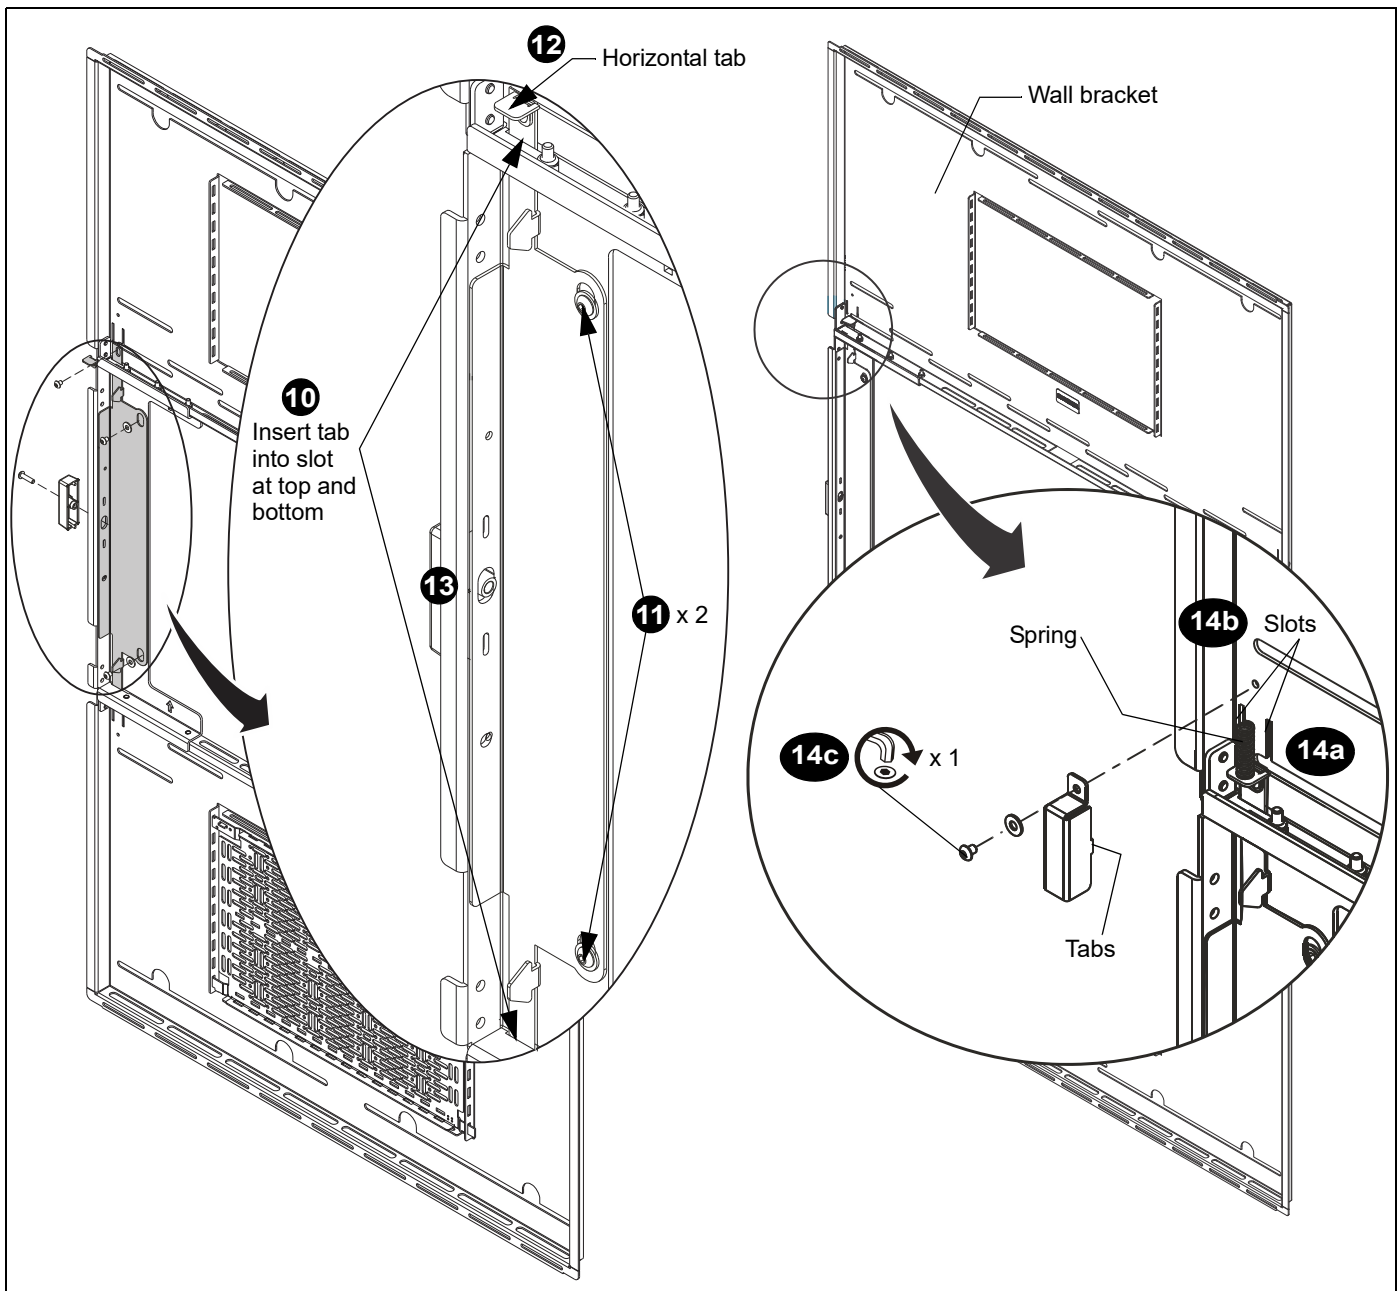

Figure 18
NOTE: Be sure that upper and lower tabs are slid into slots on wall bracket. (See Figure 18)
11. Fasten in place with two washers and screws removed in Step 1. (See Figure 18)
12. Re-install small horizontal tab removed from bottom of latch section in Step 1, by fastening it onto the top of the latch section. (See Figure 18)
13. Re-install outside latch using fastener removed in Step 1. (See Figure 18)
14. Re-install inside latch: (See Figure 18)